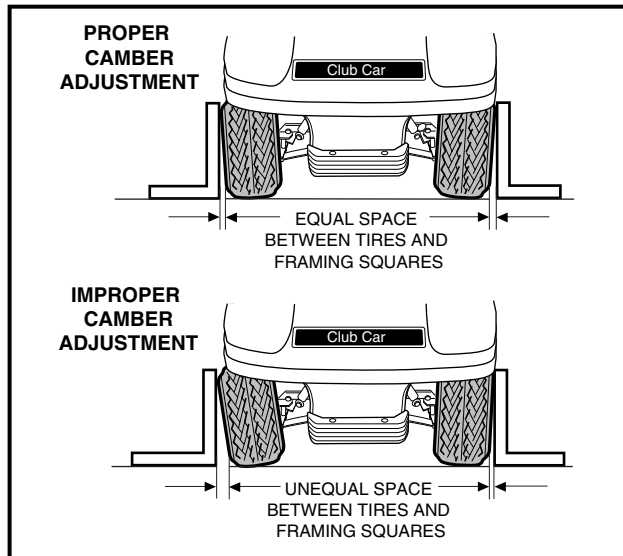
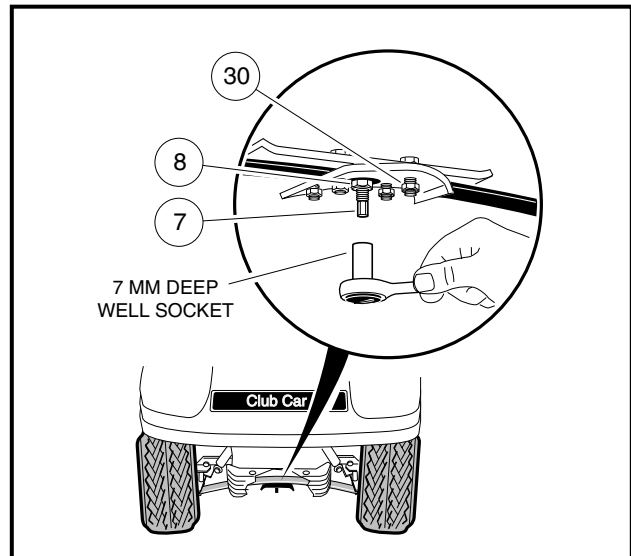
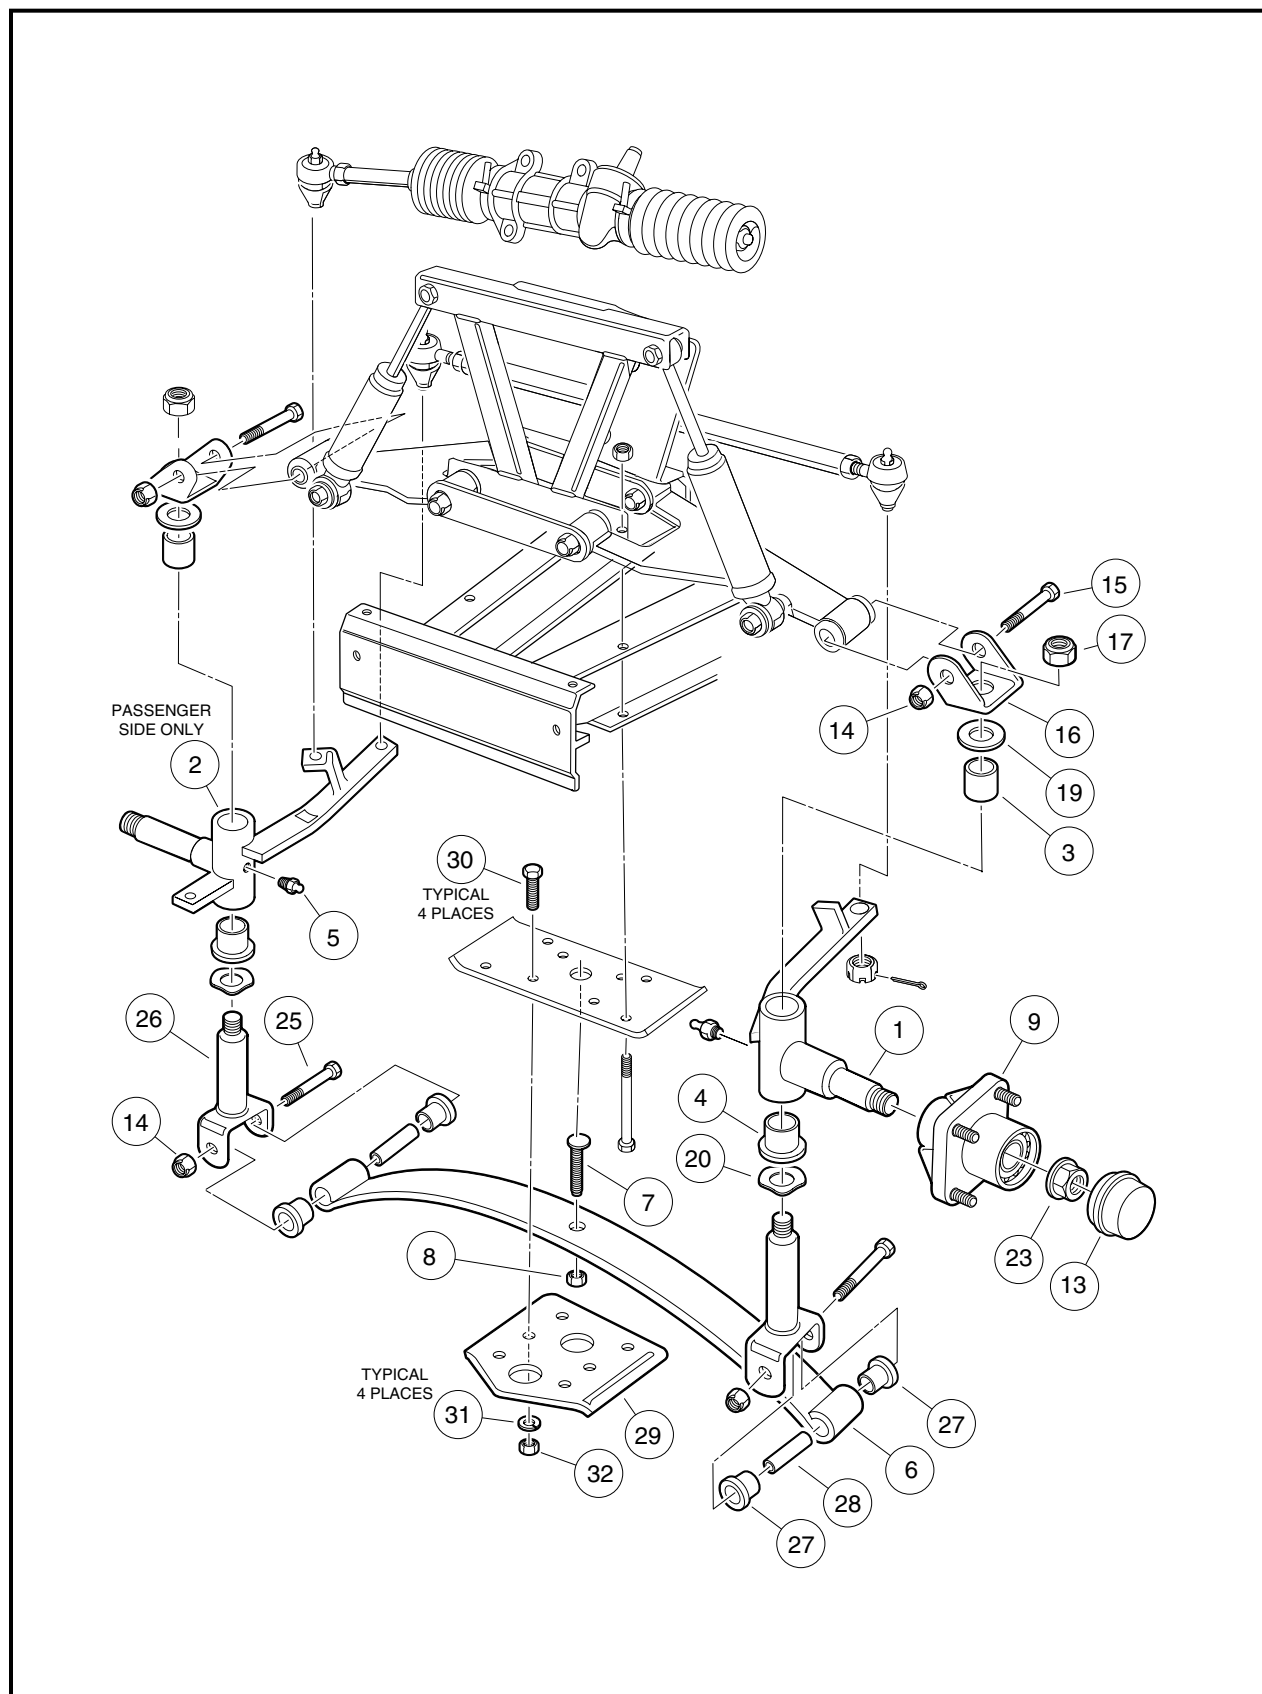

Figure 7-16 Check Camber
Figure 7-17 Adjust Camber
Figure 7-21 Lower Front Suspension Assembly
1. Check each front wheel with a framing square. At the floor (or ground), there should be an equal amount of space between each tire and the framing square (**Figure 7-16, Page 7-15**).
2. Loosen, but do not remove, the four bolts (30) that secure the leaf spring (6) to the bottom spring plate (29) (**Figure 7-21, Page 7-19**). **See also Figure 7-17, Page 7-15.**
3. Loosen, but do not remove, the hex nut (8) on the adjustment eccentric (7) (**Figure 7-17, Page 7-15**) in the center of the spring. **See also Figure 7-21, Page 7-19.**
4. Use a 7mm deep-well socket to rotate the eccentric (**Figure 7-17, Page 7-15**).
5. After adjusting camber, tighten the four spring retaining bolts (30) (**Figure 7-21, Page 7-19**) to 23 ft-lb (31 N·m). Then roll the vehicle forward one full tire revolution and recheck the camber. **See also Figure 7-16, Page 7-15.**
6. Tighten the hex nut (8) on the adjustment eccentric (7) to 10 ft-lb (13.5 N·m) (**Figure 7-21, Page 7-19**) **See also Figure 7-17, Page 7-15.**
3. Remove the nuts (14) and bolts (25) from the bottom of each kingpin (26) (**Figure 7-21, Page 7-19**).
4. Remove the four bolts (30), four nuts (32), four lock washers (31), and bottom spring plate (29).
5. Remove tapered leaf spring (6).
6. Check the condition of the urethane bushings (27) and steel bushings (28). Replace any that are worn or damaged.
1. Install urethane bushings (27) and steel bushings (28) into leaf spring eyes (**Figure 7-21, Page 7-19**).
2. Install tapered leaf spring (6), bottom spring plate (29), four bolts (30), four lock washers (31), and four nuts (32). Using a crisscross pattern sequence, tighten bolts to 23 ft-lb (31 N·m).
3. Install spring in kingpins (26) with bolts (25) and nuts (14). Tighten to 23 ft-lb (31 N·m).
3. Remove the nut (17) and lock washer (if present) from the top of the kingpin (26) (**Figure 7-21, Page 7-19**).
4. Raise the upper clevis (16) from the kingpin (**Figure 7-21, Page 7-19**).
5. Remove the thrust washer (19).
6. Slide the spindle off the kingpin (26).
7. Remove the wave washer (20) and inspect it. If the washer is broken or has a wave bottom to wave crest height dimension of less than 0.040 inch (0.10 cm), it must be replaced.
8. Remove bolt (25) and nut (14) from bottom of kingpin (26) and remove kingpin.
2. Install the kingpin (26) over the leaf spring eye. Insert the bolt (25) and install the nut (14) (**Figure 7-21, Page 7-19**). Tighten the bolt to 23 ft-lb (31 N·m).
3. Install the wave washer (20) on the kingpin.
4. Install the steering spindle on the kingpin. Then install the thrust washer (19), upper plate clevis (16), and nut (17). If lock washer was present, do not reinstall. Tighten the nut to 40 ft-lb (54.2 N·m) (**Figure 7-21, Page 7-19**).